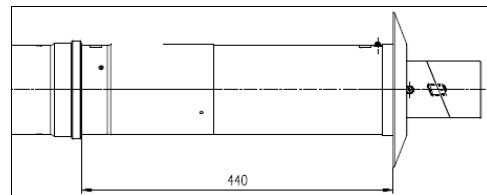

Fig. 4: 80/125mm Flue 7-716-190-062
**80/125:** The short telescopic flue & terminal 7-716-190-062 can be used to pass through external walls up to 440mm thick (see Fig. 4).